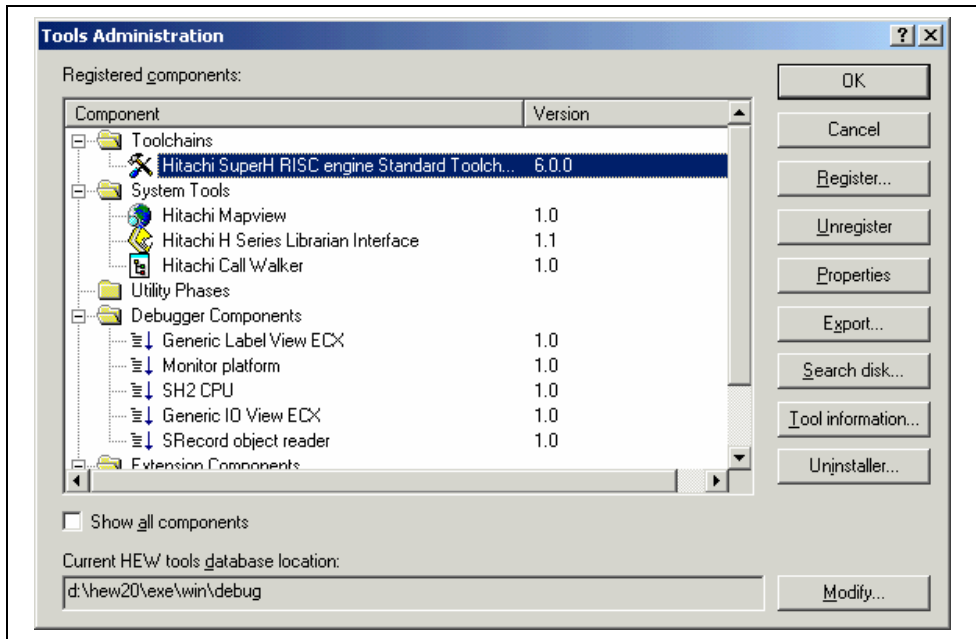
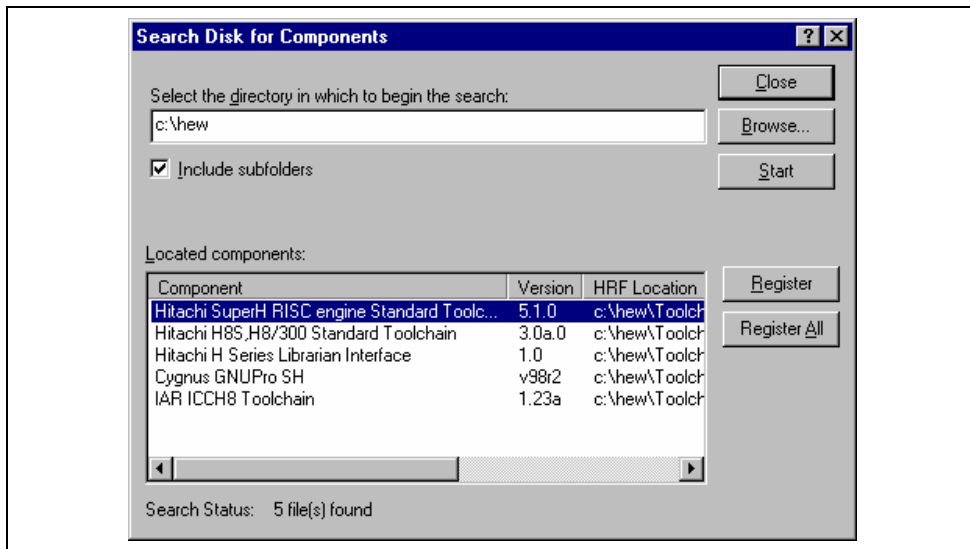

Figure 5.1: Tools Administration Dialog (Example)
Figure 5.3: Search Disk for Components Dialog
You control the components, which can be used by the Hitachi Embedded Workshop via the “Tools Administration” dialog (figure 5.1), which is invoked via **[Tools->Administration...]**. Modification of the “Tools Administration” dialog box is only possible when no workspace is open, while only reference is possible when a workspace is open.
In order to use a component with HEW it must first be registered. The “Tools Administration” dialog (figure 5.1) shows all currently registered components. To access it, ensure no workspaces are open and then select **[Tools -> Administration...]**. If you attempt to access tools administration when there is a workspace open the tools administration dialog is opened but cannot be modified. When HEW is installed by default any new tools are automatically registered.
1. Click the “Search Disk...” button on the “Tools Administration” dialog (figure 5.1). The “Search Disk for Components” dialog will be displayed (figure 5.3).